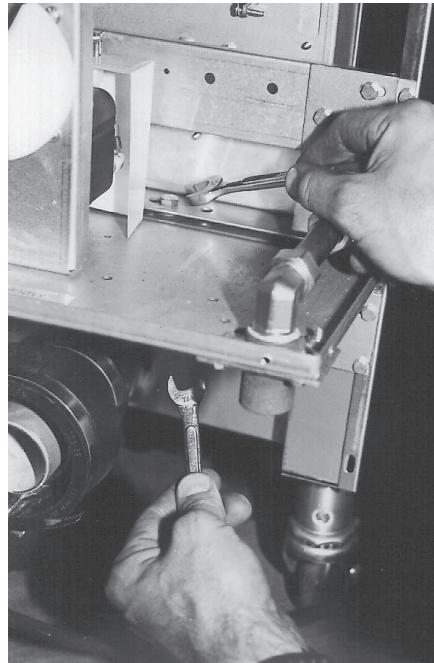

Fig. 76
8. If necessary with a  $\frac{5}{16}$ " socket, remove (4) screws securing the basket lift bottom plate to the appliance frame. (Fig. 76)
12. With a  $\frac{7}{16}$ " socket, remove (2) 1/4-20 nuts (from under the front of the base frame) that secure the tank support bracket to the frame assembly.
13. From rear of appliance disconnect the inlet gas tube union. (See Fig. 76)